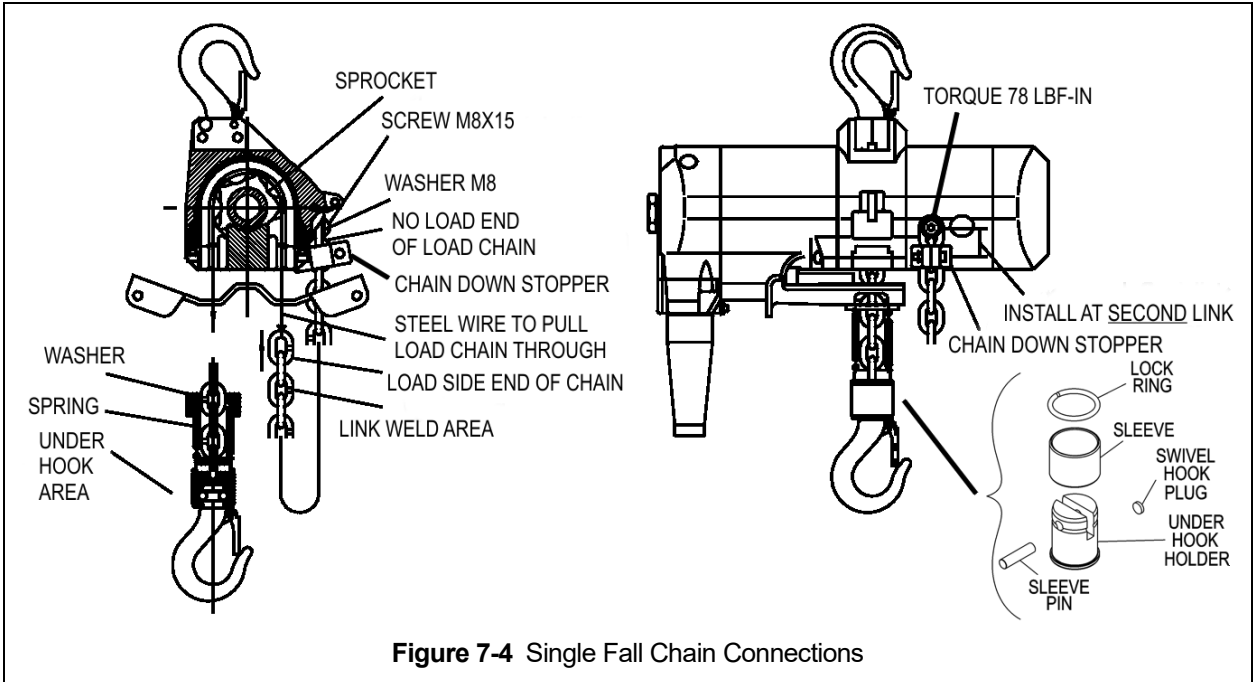

Figure 7-4 Single Fall Chain Connections
- 12) Ensure that the Chain remains free of twists and attach the no-load end of the chain to the hoist body with the Flat Washer and Button Head Screw. Reinstall the Bottom Hook Complete Set. Torque the Button Head Screw to 78 lbf-in. Refer to Figure 7-4 and Figure 7-5. Install chain down stopper on the second link from the no-load end. Refer to Figure 7-2, below.